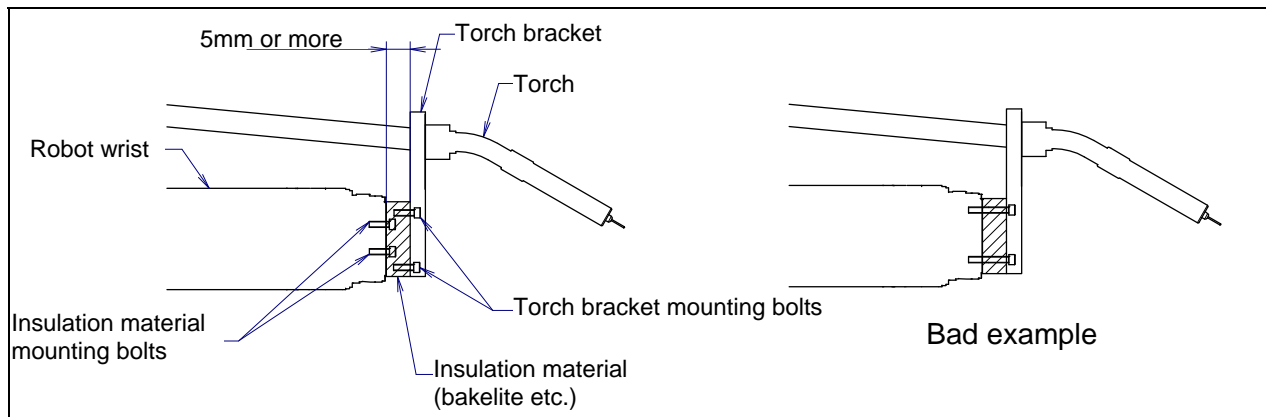

Fig. D.1 Insulation at the wrist
- Insulate the end effector mounting surface. Insulation material which is inserted between the end effector mounting surface and the welding torch bracket must be different, and bolt them separately referring to Fig. D.1.